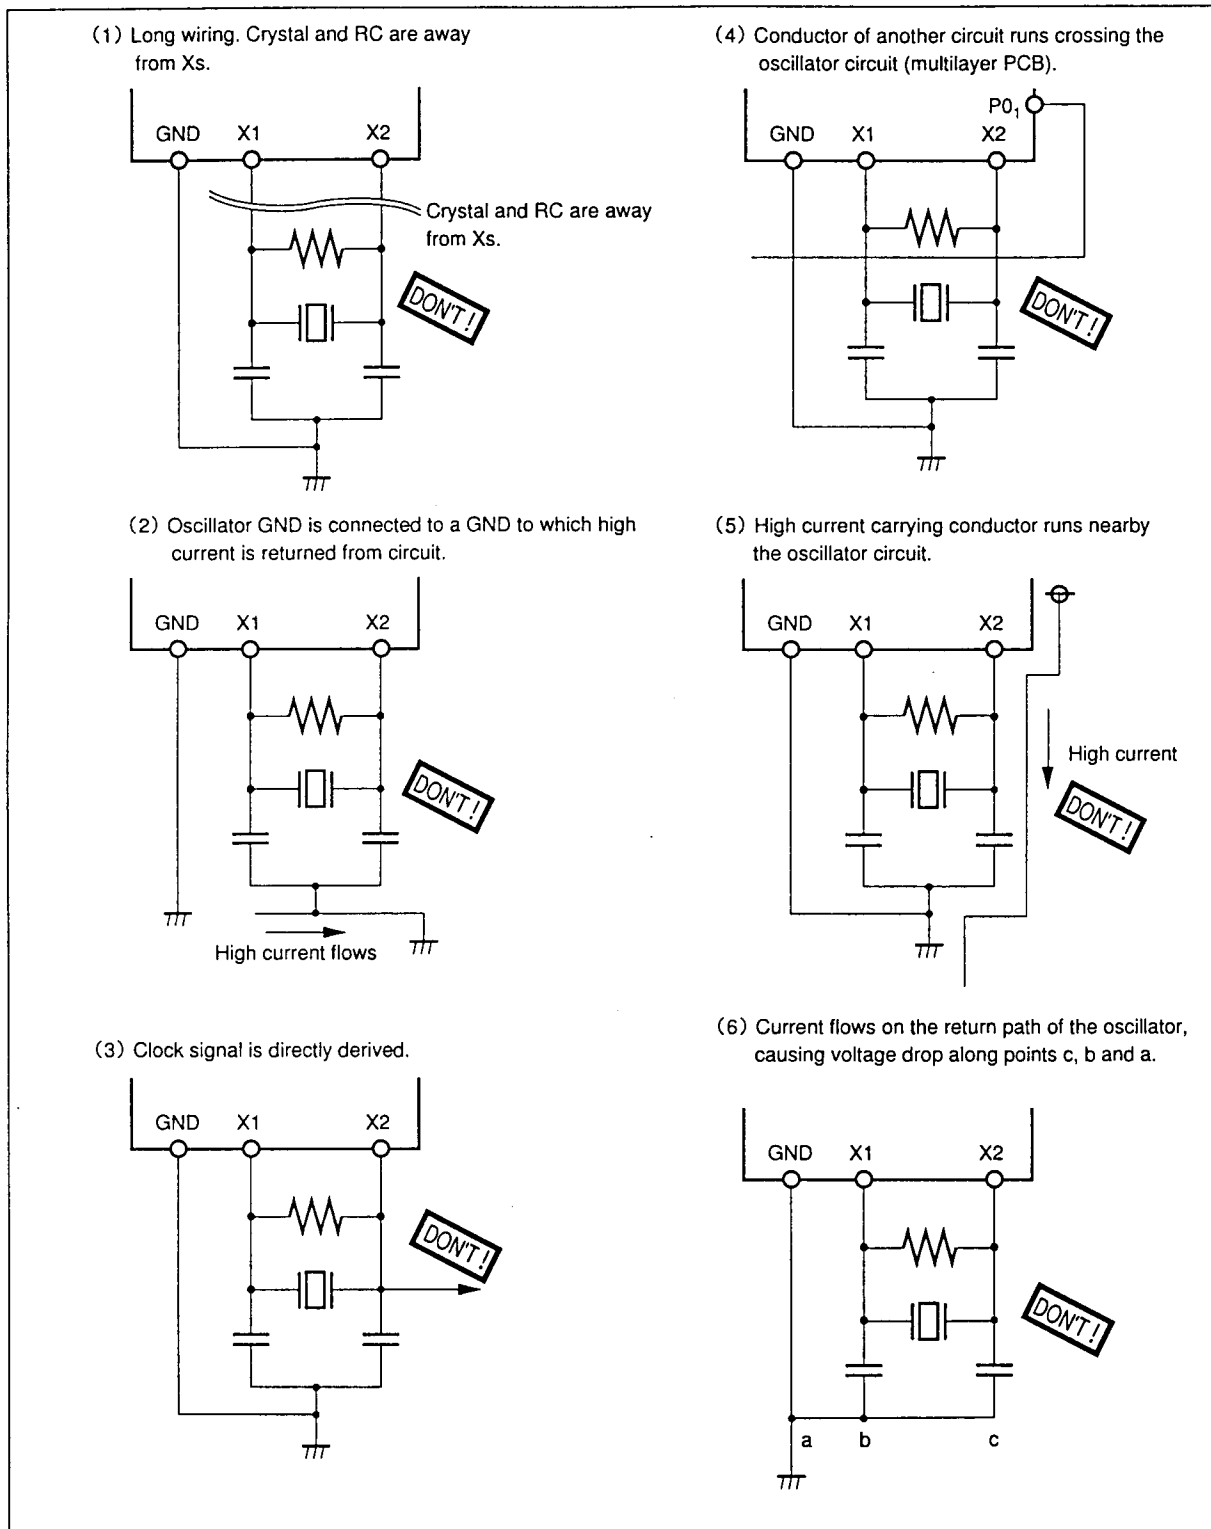

Fig. 3-2 Examples of wrong oscillator configuration
- (1) Wirings connected to the oscillator circuit must be as short as possible. The capacitors and crystal must be located closely to the X pins to minimize stray capacitance (see Fig. 3-2 (1)).
- (2) Do not connect the return path of the oscillator to a GND of high current (see Fig. 3-2 (2)).
- (3) Do not derive the clock signal directly from the oscillator circuit wiring (see Fig. 3-2 (3)).
- (4) When the oscillator circuit is mounted on a multilayer PCB, do not cross the wiring plane or wirings of the oscillator circuit and other circuit wiring plane or wirings (see Fig. 3-2 (4)).
- (5) Do not run high current conductor close to the oscillator circuit (see Fig. 3-2 (5)).
- (6) Directly connect the negative side of the capacitors to the GND of LSI for no potential difference (see Fig. 3-2 (6)). This also minimize stray capacitance.
- (7) Run GND of LSI and VDD lines so that they offer minimum stray capacitance.
Fig. 3-2 shows examples of poor oscillator circuit connections.